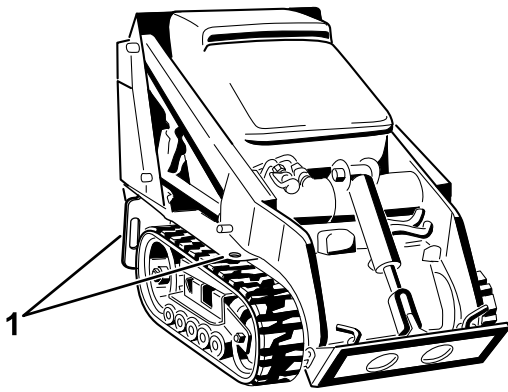

Figure 20
5. Load the machine onto the trailer with the heavy end up the ramp, carrying loads low (Figure 20).